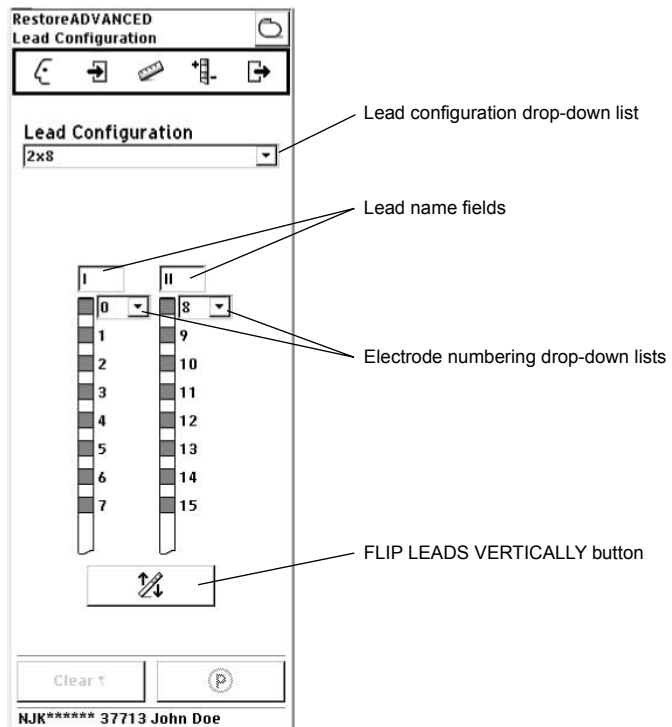

Figure 18. LEAD CONFIGURATION screen.
2. Select the appropriate lead configuration from the lead configuration drop-down list (Figure 18).
3. If appropriate, enter lead names in the lead name fields (Figure 18).
5. If appropriate, select the FLIP LEADS VERTICALLY button (if lead orientation is different than pictured). The electrodes may also be renumbered from this screen (Figure 18).
6. Hold the programming head steady over the neurostimulator, then press the PROGRAMMING (P) key or select the PROGRAM (P) button on the programmer screen.